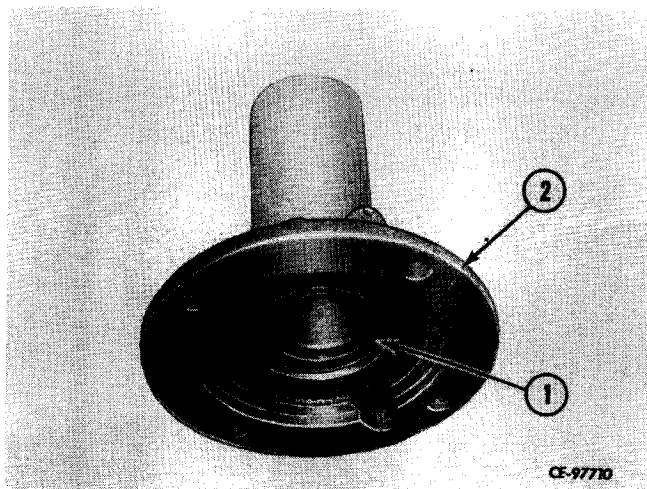

Figure 4-16
Remove oil seal (1, Fig. 4-16) from hub of retainer (2). Press a new seal into hub of retainer with lip of oil seal facing reverse housing.